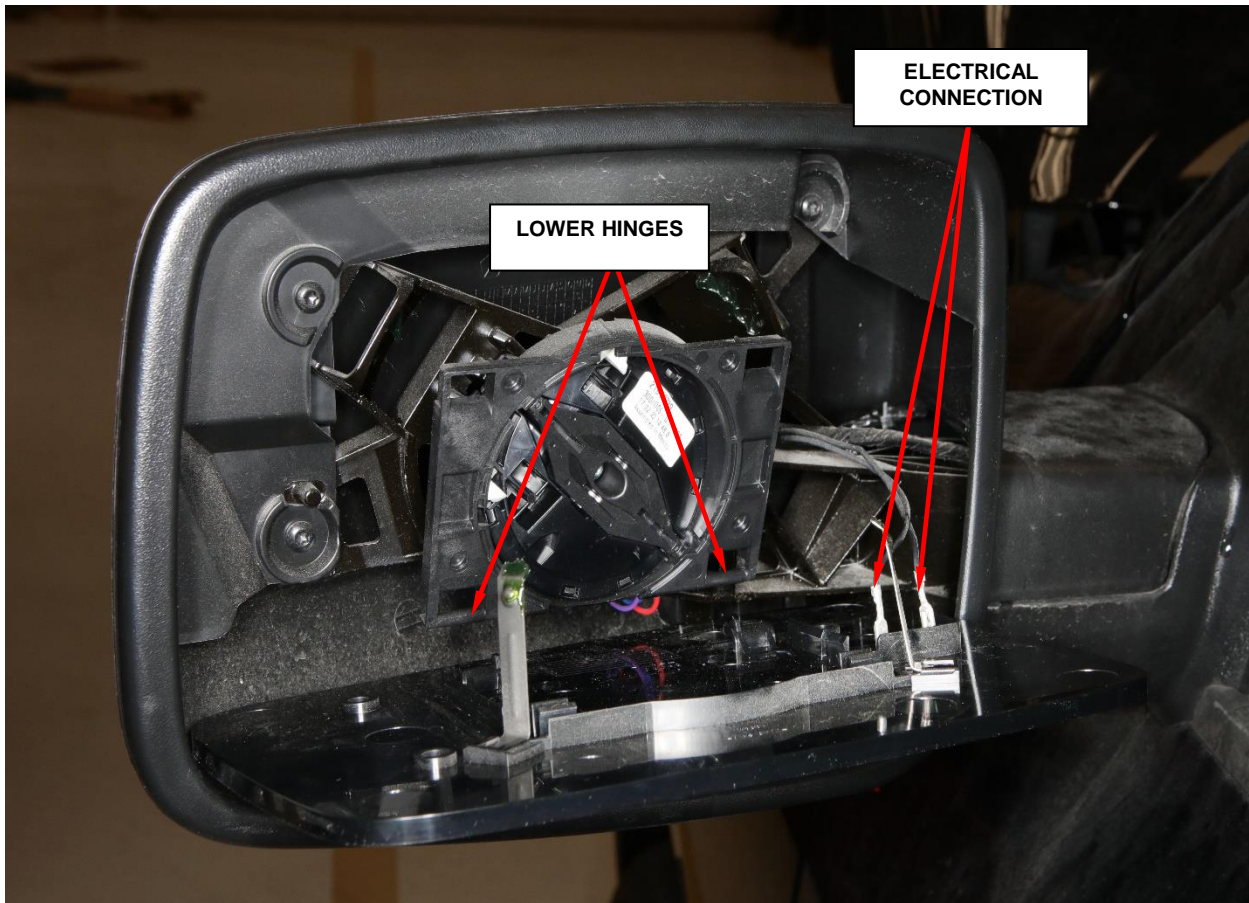

**Figure 3 – Mirror Glass**
4. Firmly and carefully grasp the mirror at the top and pull out to separate the upper mounting clips (Figure 3).